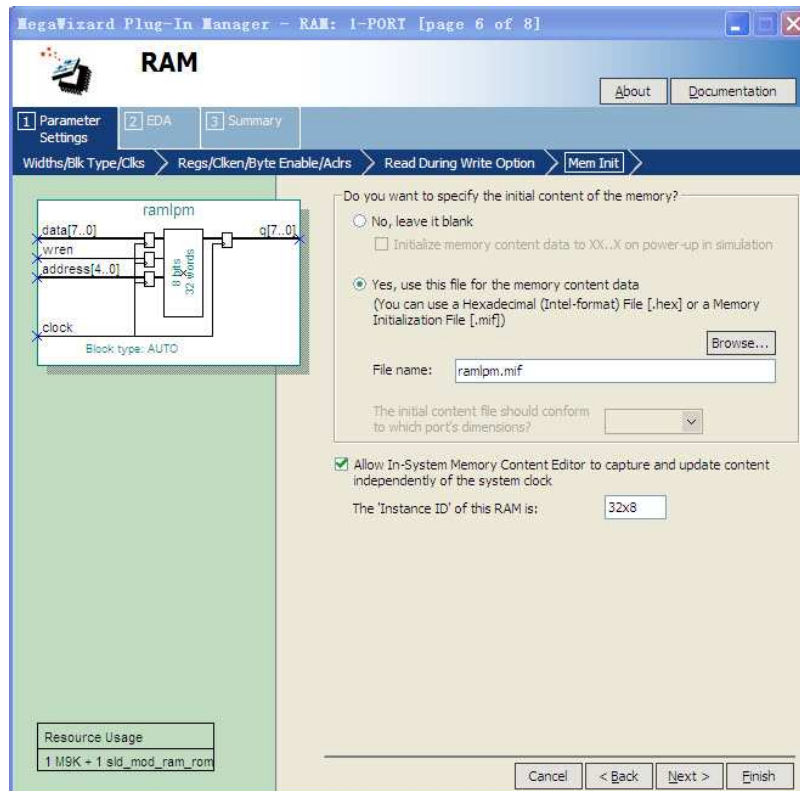
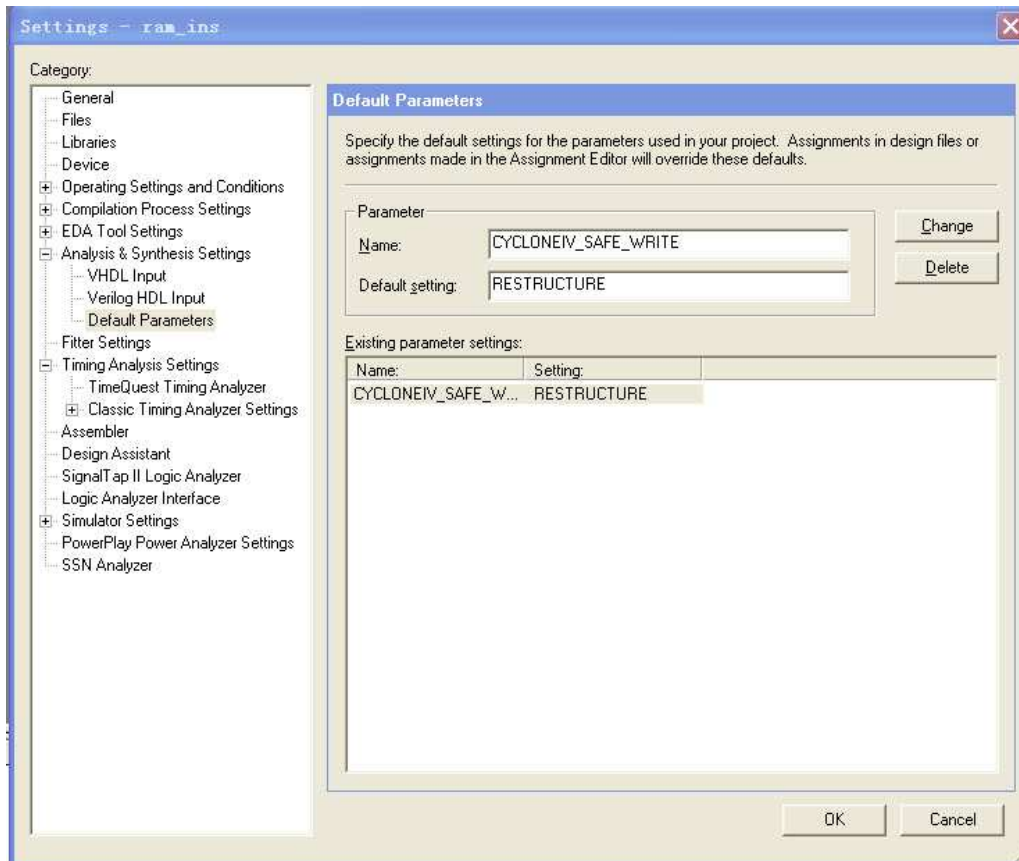

Figure 6. Configuring *RAM:1-PORT* for use with the In-System Memory Content Editor.
Figure 7. Setting the *CYCLONEIV SAFE WRITE* parameter.
1. Create a new Quartus II project for your circuit, and use the MegaWizard Plug-in Manager to again create a single-port version of the altsyncram LPM. For Pages 1 to 6 of the Wizard use the same settings as in Part I. On Page 6, shown in Figure 6, specify the ram1pm.mif file as you did in Part V, but also make the setting Allow In-System Memory Content Editor to capture and update content independently of the system clock. This option allows you to use a feature of the Quartus II CAD system called the In-System Memory Content Editor to view and manipulate the contents of the created RAM module. When using this tool you can optionally specify a four-character 'Instance ID' that serves as a name for the memory; in Figure 7 we gave the RAM module the name 32x8. Complete the final steps in the Wizard.
3. Before you can use the In-System Memory Content Editor tool, one additional setting has to be made. In the Quartus II software select Assignments > Settings to open the window in Figure 7, and then open the item called Default Parameters under Analysis and Synthesis Settings. As shown in the figure, type the parameter name CYCLONEIV SAFE WRITE and assign the value RESTRUCTURE. This parameter allows the Quartus II synthesis tools to modify the single-port RAM as needed to allow reading and writing of the memory by the In-System Memory Content Editor tool. Click OK to exit from the Settings window.